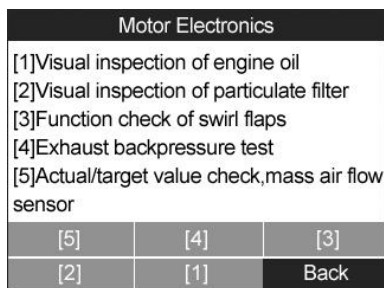

Figure 11.29
- a) From the particle filter test menu (Figure 11.29) use the **LEFT/RIGHT** scroll button to select **【1】** and press the **OK** button.
- a) From the particle filter test menu (Figure 11.29) use the **LEFT/RIGHT** scroll button to select **【2】** and press the **OK** button.
- a) From the particle filter test menu (Figure 11.29) use the **LEFT/RIGHT** scroll button to select **【3】** and press the **OK** button.
- a) From the particle filter test menu (Figure 11.29) use the **LEFT/RIGHT** scroll button to select **【4】** and press the **OK** button.
- a) From the particle filter test menu (Figure 11.29) use the **LEFT/RIGHT** scroll button to select **【5】** and press the **OK** button.